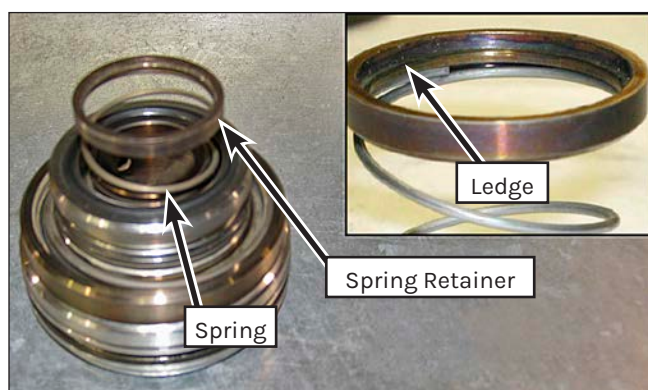

Figure 117: Spring and Retainer Installation.
4. Insert the suction valve spring and spring retainer into the valve body. Ensure the ledge the retaining ring sits on is positioned properly (Figure 117).